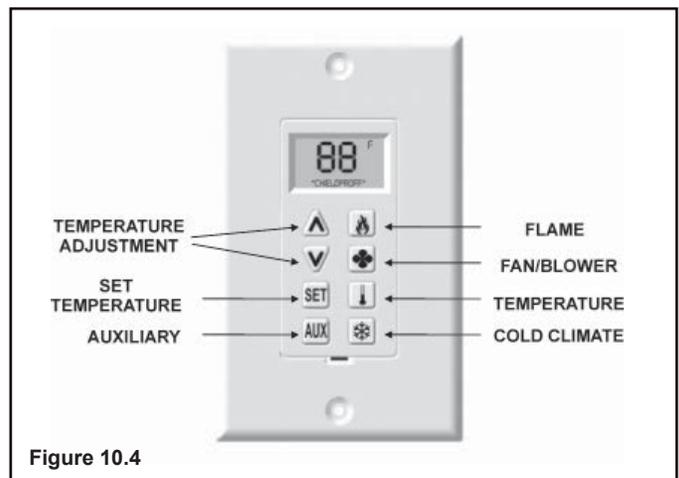

Figure 10.4
- Press flame button once (Fig. 10.4); fireplace will light with flames on high.
- Turn solenoid clockwise to increase pressure, counter-clockwise to decrease pressure until manifold pressure on high is 3.5" water column for natural gas (NG), 10.0" water column for propane (LP).
See Figure 10.4.